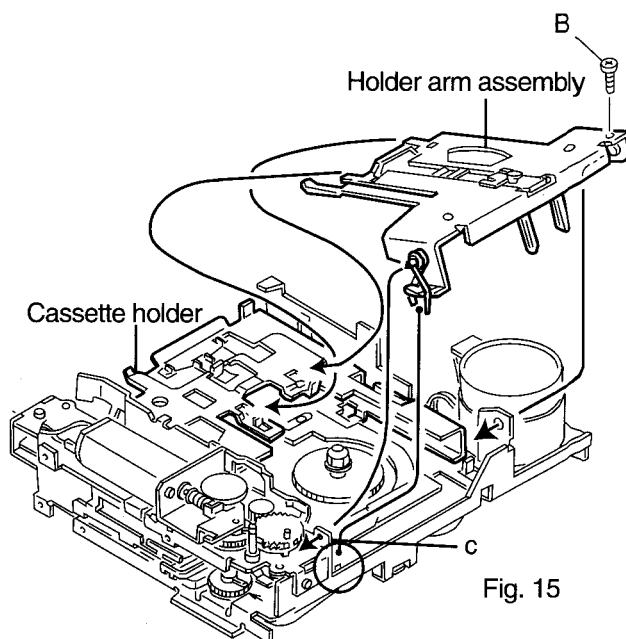

Fig. 15
5. While attaching the holder arm assembly to the cassette holder, insert the shaft of the holder arm assembly into the interlocking section c of the sub chassis assembly as shown in Fig. 15.
7. After the holder arm assembly is installed, secure it with the screw B (See Fig. 15)